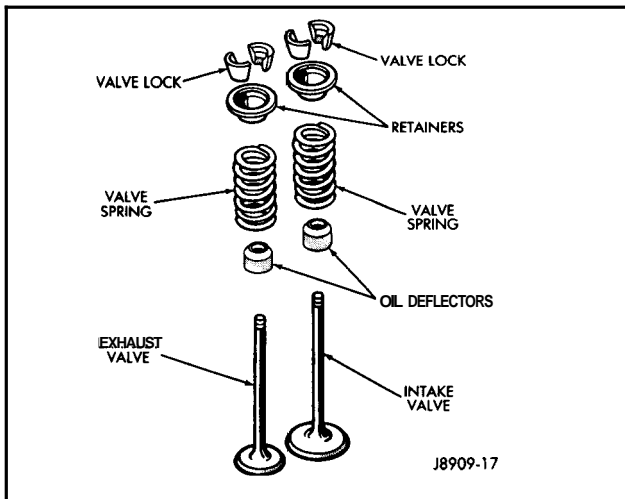

Figure 7-23
10. Remove the valve locks (Figure 7-23).
11. Remove the valve spring and retainer from the cylinder head (Figure 7-23).
12. Remove the oil deflector (Figure 7-23).